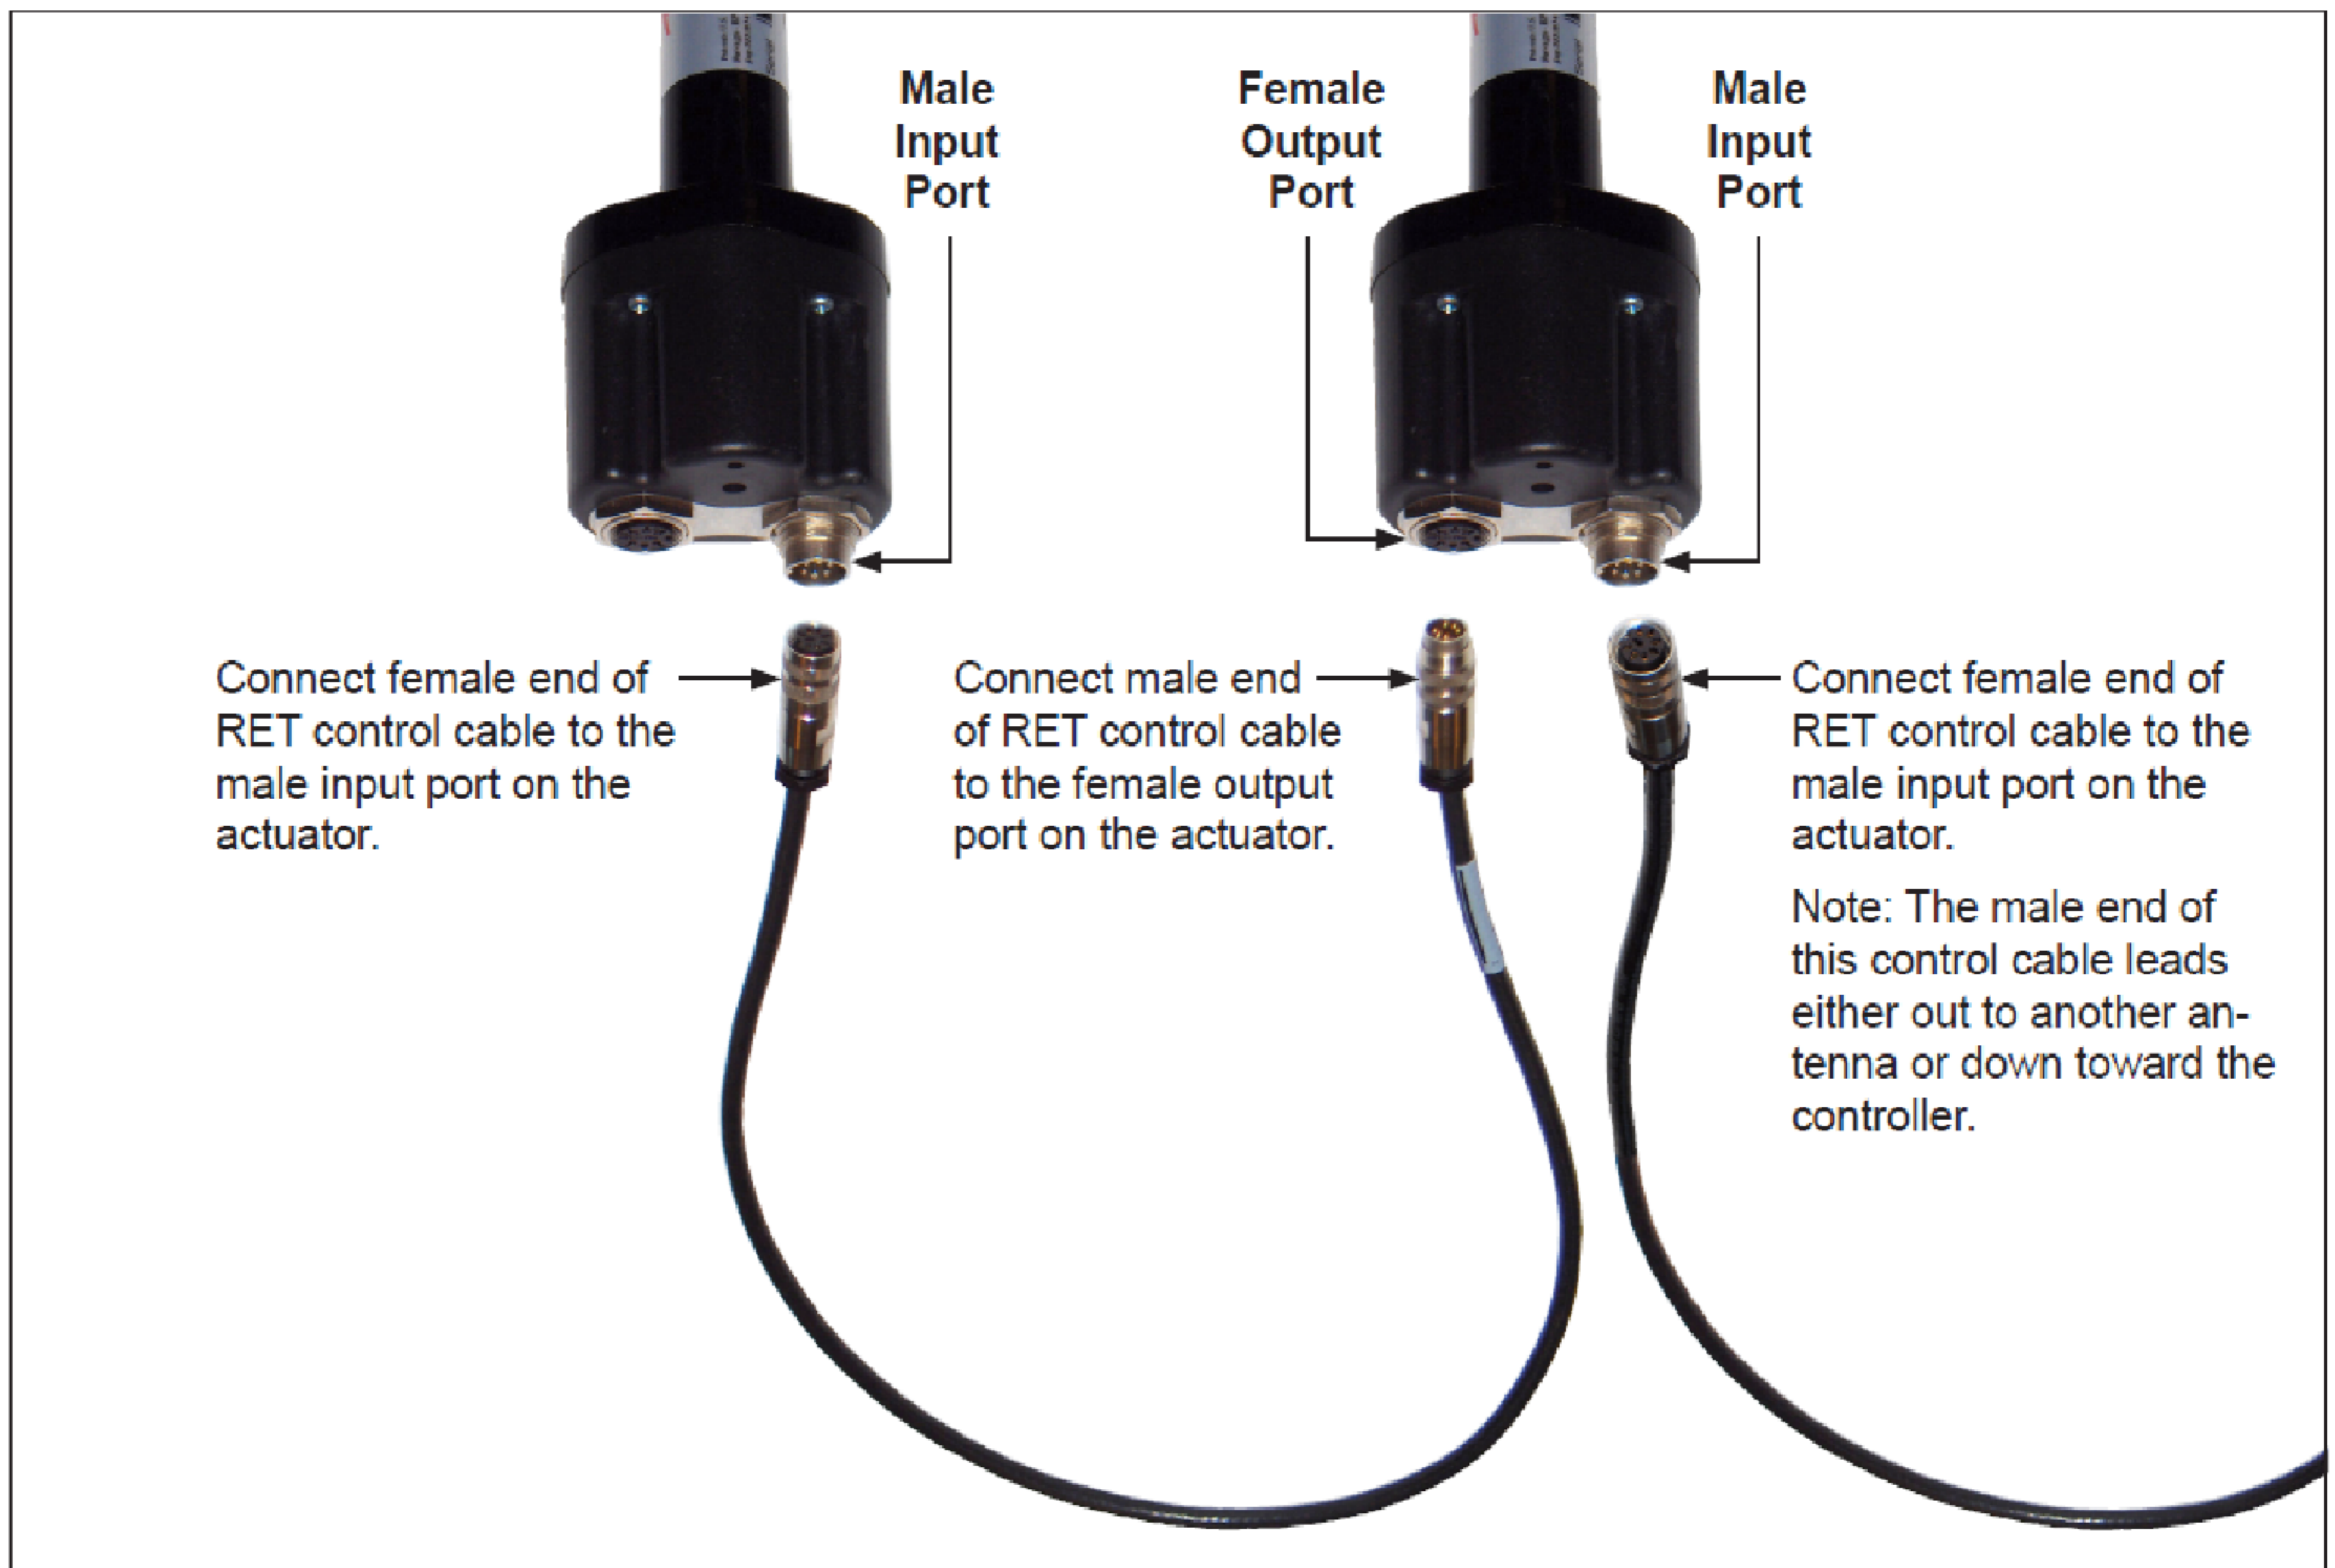
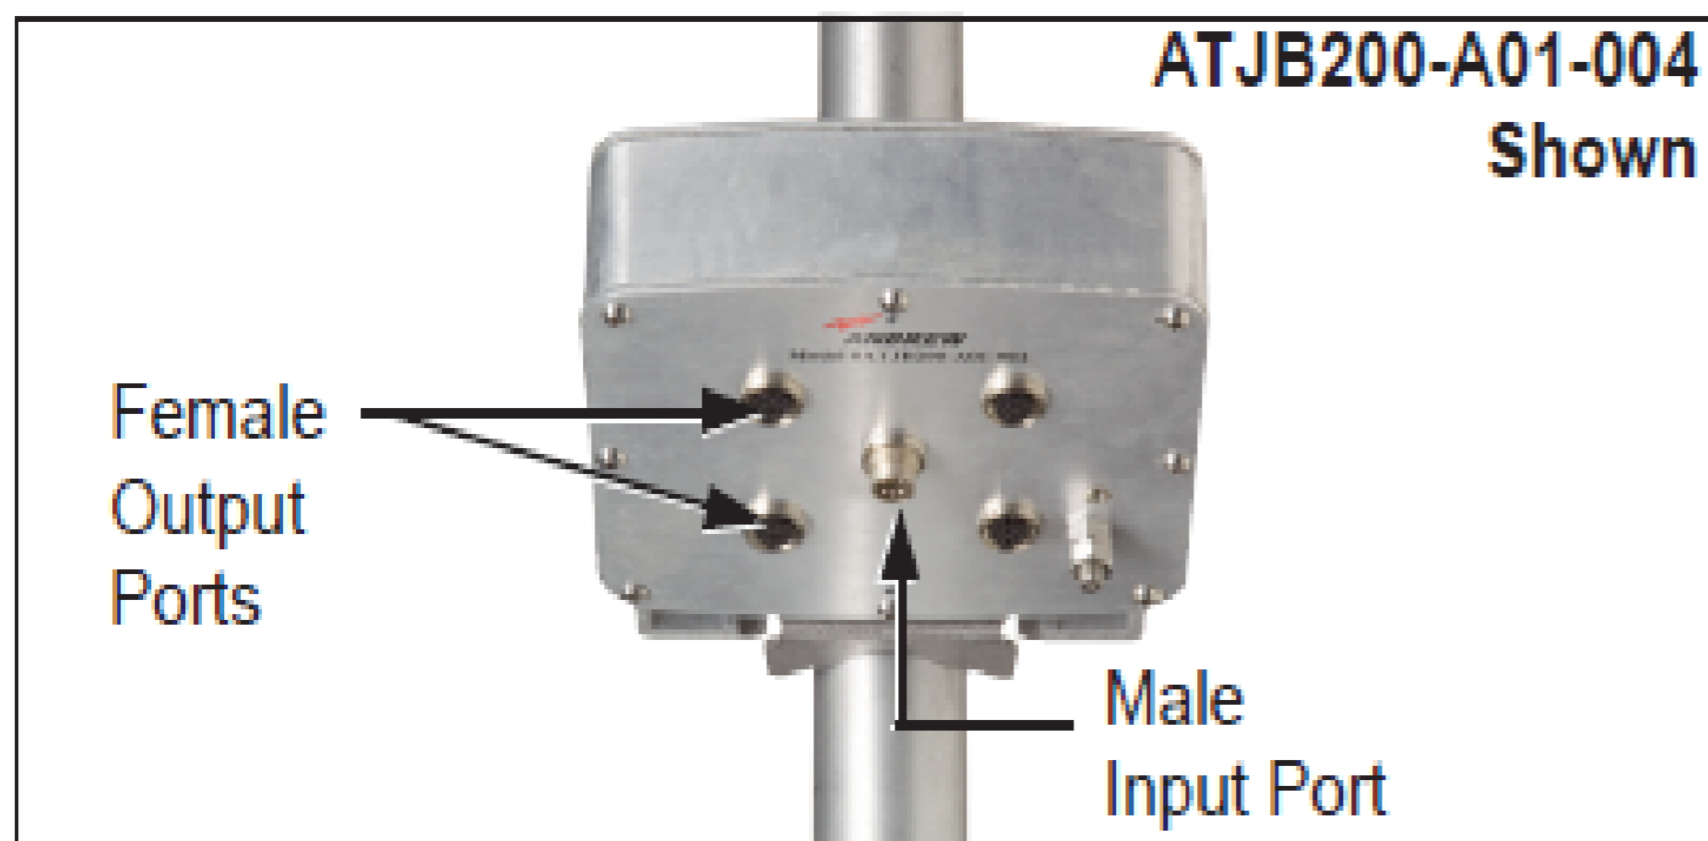

Figure 2. Daisy-Chaining the AISG RET Control Cable.
Figure 3. ATJB Series Junction Box RET Ports.
5. The connectors on the RET control cables are gender specific and are keyed to provide a matching fit with the ports on the actuator and the other RET equipment. Refer to Figure 2 for an example of how to properly attach the RET control cable connectors to the actuators for daisy-chaining. Refer to Figures 3 through 6 for location of ports on various components used in a RET system.